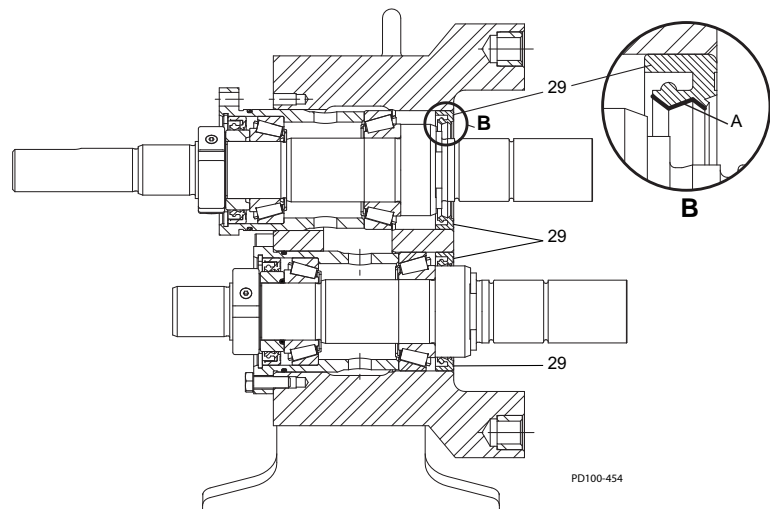
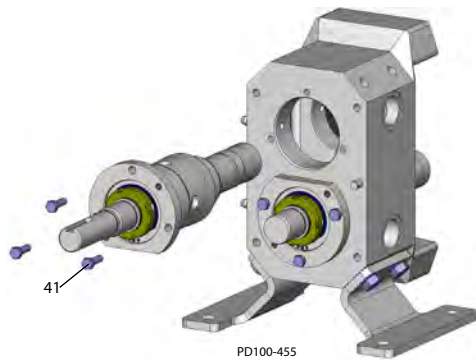

Figure 48 - Apply bearing grease
Figure 49 - Secure with cap screws
1. See Figure 48. Apply a coating of bearing grease to the inside diameter (item A) of the front lip seals (item 29).
2. Install the shaft assemblies into the gear case and secure them with cap screws (Figure 49, item 41). Apply a light film of bearing grease to the bores and bearing cups to ease installation. Use care to prevent damage to the lip seals (Figure 48, item 29) during assembly.